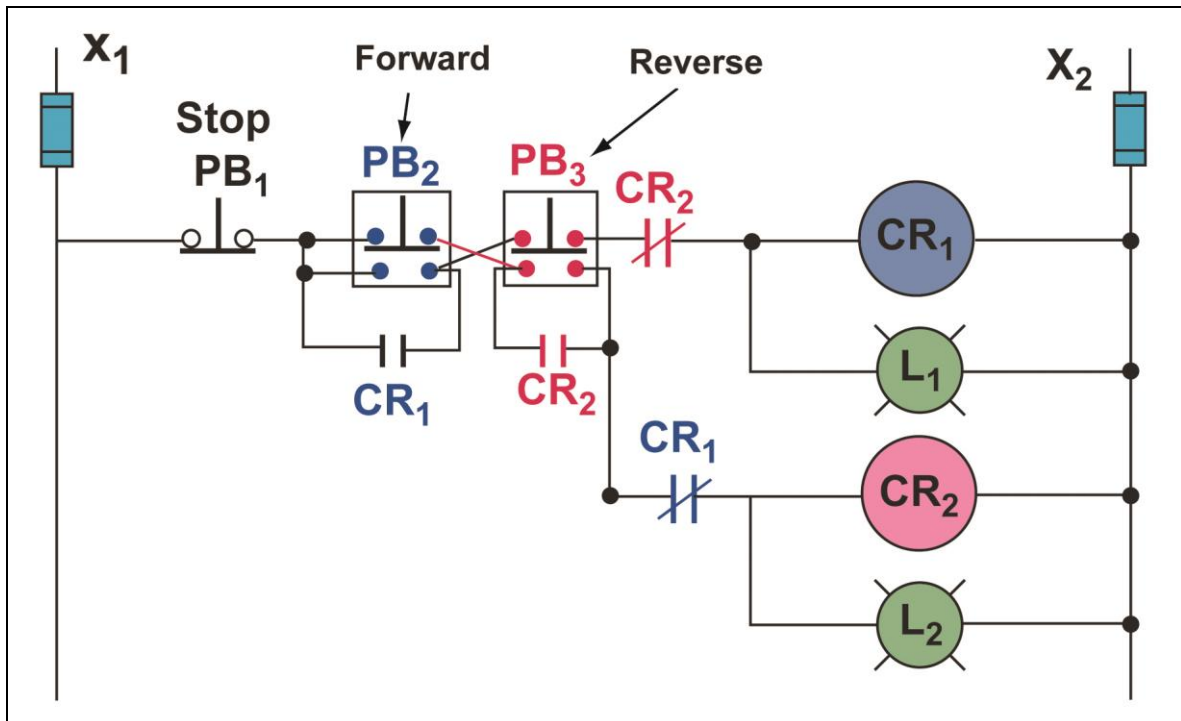

Fig. 1.2-33 Push-Button and Contact Electrical Interlock Circuit
Most Forward/Reverse magnetic starters have mechanical interlock protection. Some Forward/Reverse starters have mechanical interlock protection with a secondary backup or safety backup system, to insure electrical interlocking. Fig. 1.2-33 Interlock Circuit shows a schematic for a Forward/Reverse circuit with Push-button and contact Electrical Interlocking. This method of interlocking uses two sets of push-button contacts to control each relay coil.
When the FORWARD button, **PB₂**, in Fig. 1.2-33 is pressed, control relay **CR₁** is energized and the normally open (NO) contact **CR₁** closes to hold in the forward relay **CR₁**. The indicating light, **L₁** will glow. If the REVERSE button, **PB₃** is pressed while the **CR₁** relay is energized, the forward control circuit is de-energized and the **CR₂** relay is energized and held closed. The indicating light, **L₂** will glow. If both **PB₂** and **PB₃** are pushed at the same time, neither relay can be energized.